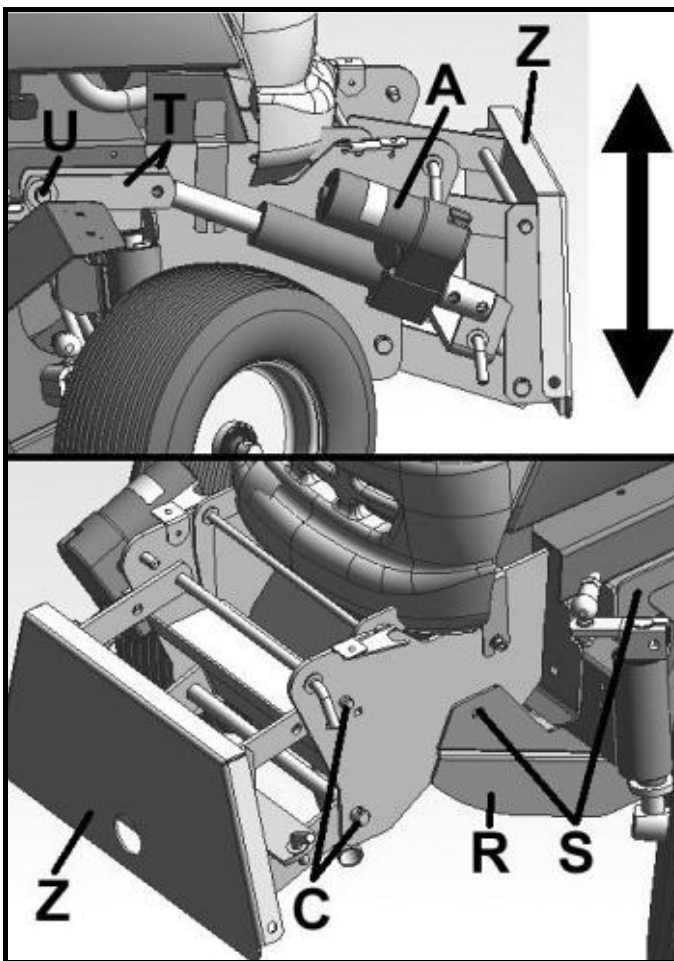

Fig.11a
Upon request it is possible to deliver the front suspending equipment (Fig.11a), which by using makes it possible to
The suspending equipment in pos. "Z" Fig.11a is mounted on the self-moving rotary cutter by means of 2 pins, pos. "C" and 4 clips. The actuator of the lifting "A" is mounted on point "U" directly on the pin welded onto the frame by means of the 2 draw bars of hinge "T". The front suspending equipment includes the hinge of the plough iron "R" which is attached by 4 bolts, position "S". The actuator for the lifting of the front hinge is controlled by the switch according to Fig.3c, pos.19.